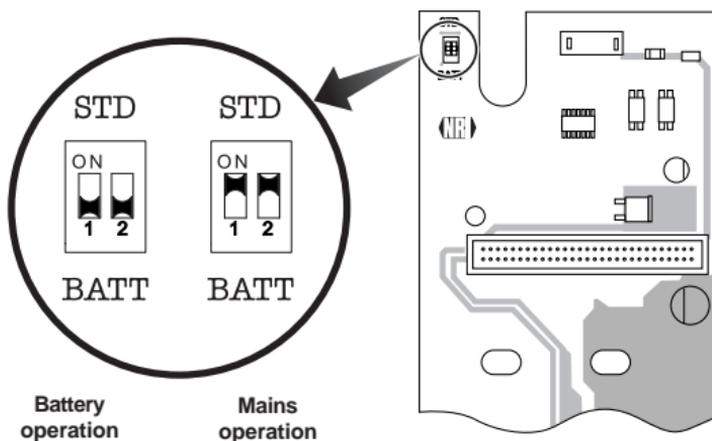

Fig. 9: Selecting mains operation or battery operation
- 2 For standard mains operation, use a pointed object to push the two DIL switches on the top left-hand side of the PCB upward to STD and, for battery operation, downward to BATT (see Fig. 9).